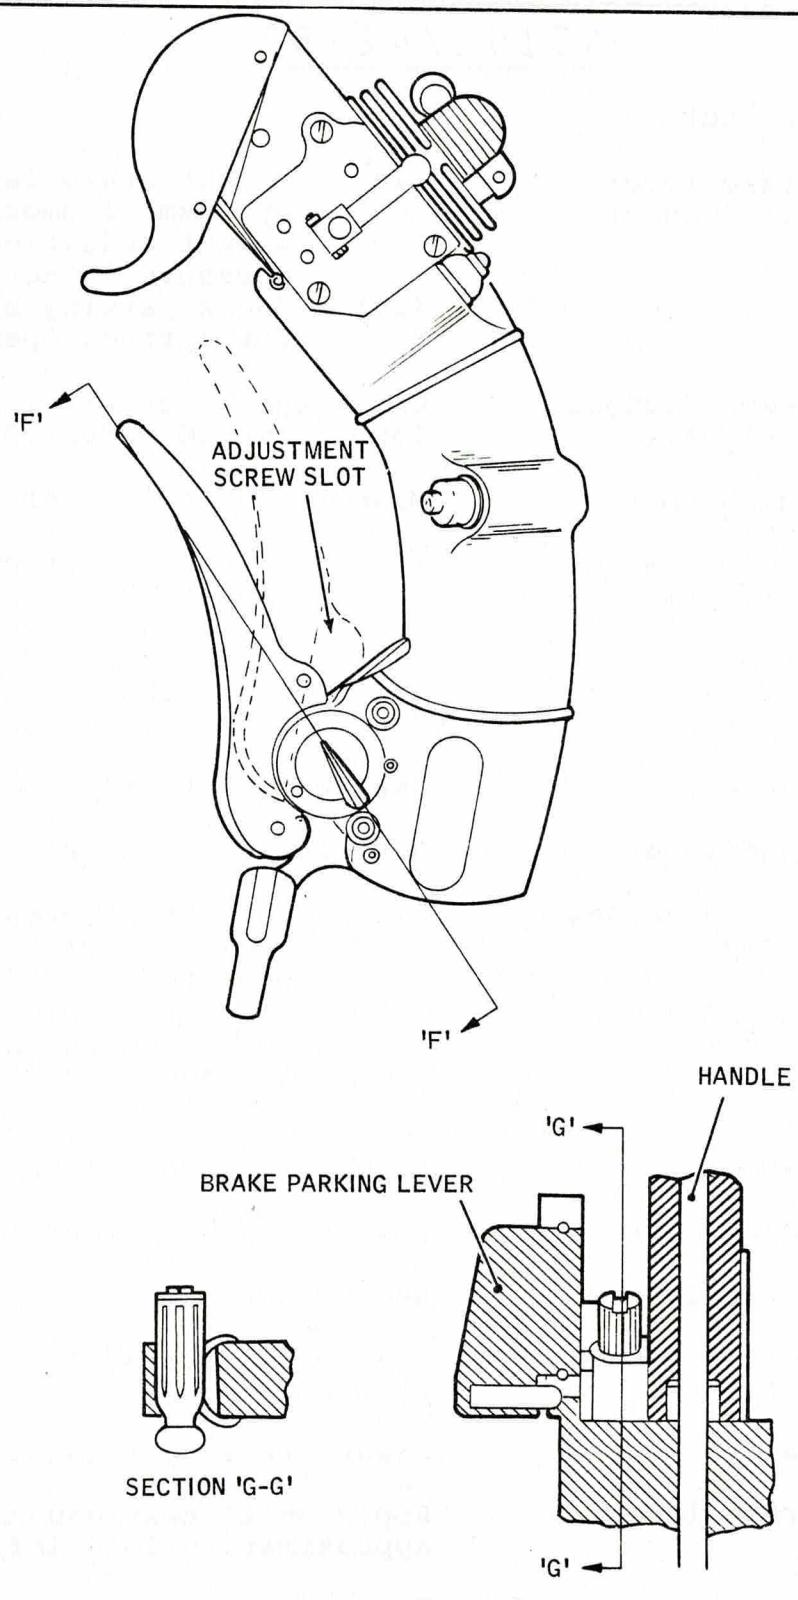

FIGURE 1
3.5 Pilot's brake lever (See Fig.1). (i) Screw brake lever stop fully down until flush.
3.5 Pilot's brake lever (See Fig.1) (Contd)